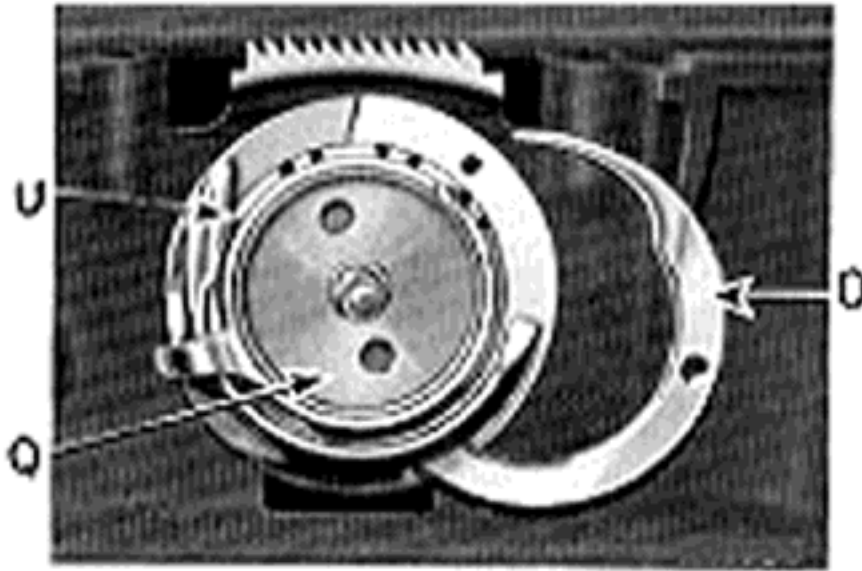

Fig. 7
Remove throat plate and take out screw (P) so that the gib (O) can be displaced as shown in Fig. 7. Turn the bobbin case base so that the small point (U) on the base is beneath the point of the sewing hook, as shown in Fig. 7 and take out the bobbin case base (Q). To replace the base, reverse the operation.